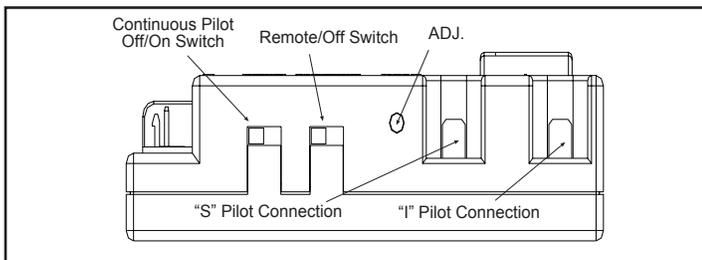

Figure 46 - Gas Module Right Side
1. There is a switch located on the right side of the module that reads CONTINUOUS PILOT ON/OFF. This switch selects the pilot's mode of operation (Figure 46).